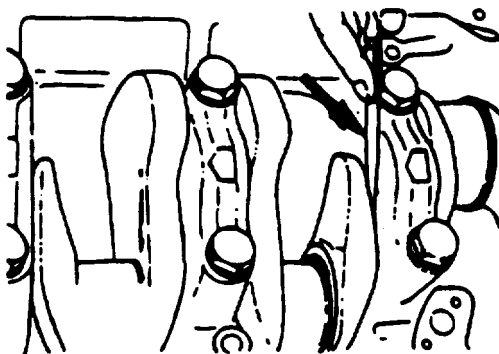

FIGURE 3-78. Crankshaft End Play
- v. Measure crankshaft end play at the center journal, refer to FIGURE 3-78. Do this before removing bearing caps. Standard end play is 0.004 in. (0.10mm), with a limit of 0.012 in. (0.30mm). If measured value exceeds limit, crankshaft thrust bearings (9) must be replaced.